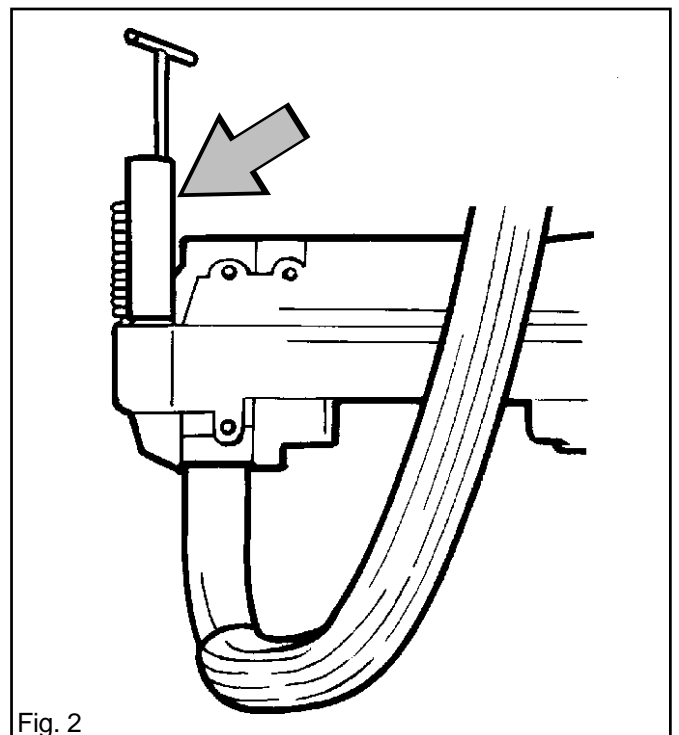

Fig. 2
3. Detach the springs from the tank unit with service tools 502 52 18-01 and 502 52 18-02. See fig. 2.
6. Cover the crankcase opening immediately with paper or clean rag. See fig. 2.
7. Remove one of the piston circlips, press out the gudgeon pin and remove the piston. See fig. 2.